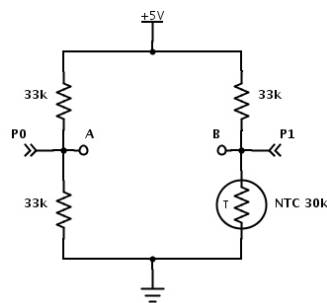

Fig. 3 Circuit diagram of the Wheatstone bridge using the 30kΩ NTC thermistor.
- 1) Derive an expression for the resistance of the thermistor using the voltage difference across Nodes A and B from the Wheatstone bridge circuit shown in Fig. 3, then use this to derive an expression for the temperature of the thermistor as a function of the voltage difference across nodes A and B. function which calculate as a function which of the light (in lumens) incident on the photo resister, then derive an expression for the luminosity as a function of the voltage at Node A. Note: Examine the data sheet of the NTCLG100E2303JB and use the Steinhart-Hart Thermistor Equation.
- 3) Assemble the circuit shown in Fig. 3 on the breadboard and commit your sketch.